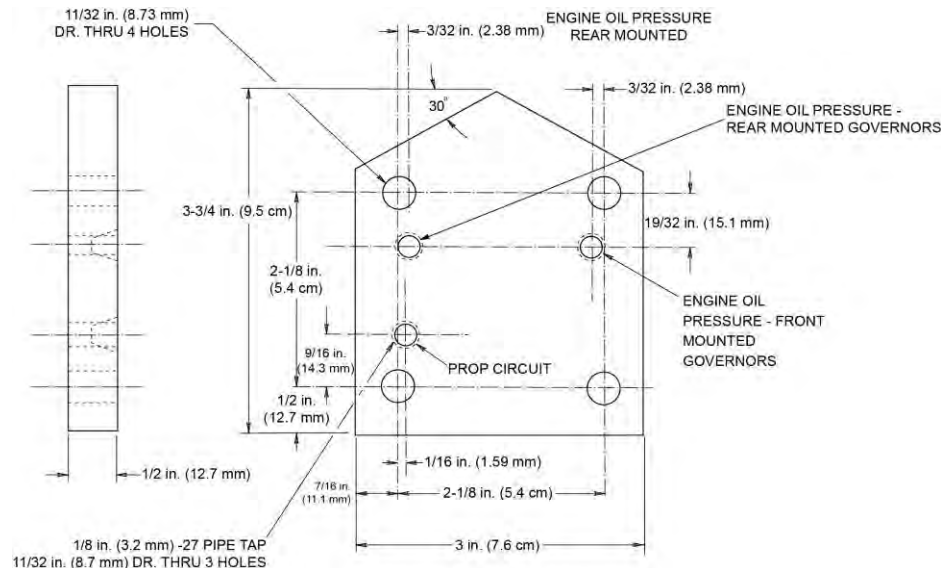

Figure 96
NOTICE: In the following steps, to prevent an air leak, use a propeller governor gasket P/N 72053 with test plate P/N ST-483 (Figure 96). Refer to the latest revision of Service Instruction No. 1462 for any updates.
- (2) Front-mounted propeller governors: Install the gasket and the test plate P/N ST-483, or equivalent on the governor pad with the air fitting in alignment with the governor oil passage that goes to the front bearing (forward hole) or left side of the mounting facing the pad. Refer to Figure 96.
- (3) Rear-mounted propeller governors: Install the left side bottom hole on the test plate P/N ST-483 on the front bearing and crankshaft transfer tube.
- (4) Connect a calibrated oil pressure gauge (0 to 100 psi) (0 to 689 kPa) to the appropriate engine oil pressure port on the test plate for your governor location. Install a plug in the propeller circuit and unused engine oil pressure circuit port.
- (5) Start and warm-up the engine until the oil temperature is within the correct operating range (Appendix A of the *IO-390-C Series Engine Installation and Operation Manual*.)